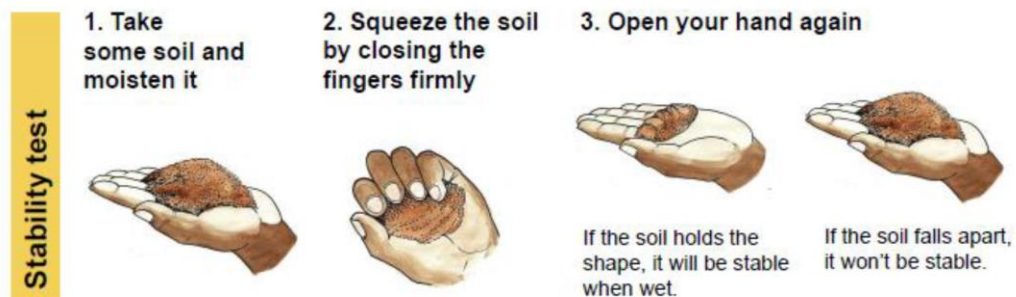
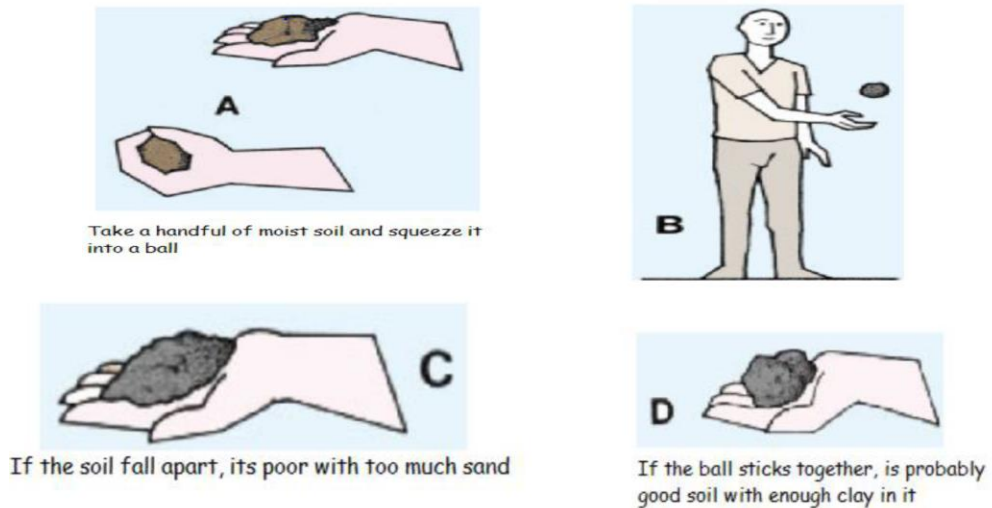

Figure 2-1: Squeeze-the-ball test of the soil
Figure 2-3: Test for texture of the soil
- iv. In each of these parts, test the soil in one or all of the ways shown below (Figure 2-1 to Figure 2-3).